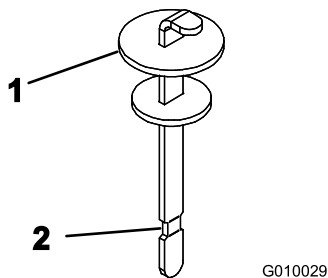

Figure 19
4. Remove dipstick from filler neck and wipe it with a clean rag. Insert dipstick into filler neck; then remove it and check level of fluid. Fluid level should be up to mark on dipstick (Figure 19).